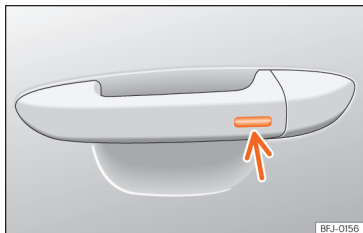

Fig. 61 Door handle: sensor surface.
- **OR:** using the Keyless Access system (only locking): Press and hold the locking sensor surface **>>> Fig. 61** (arrow) on the door handle for several seconds to close the windows and the sunroof. If you stop touching the sensing surface, the locking function is interrupted.
Press and hold the locking sensor surface **>>> Fig. 61** (arrow) on the door handle to close the sunroof. If you release the sensor surface, the closing movement stops.